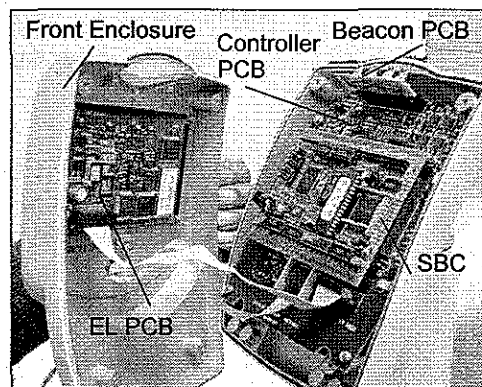

Figure 4-5b: Injector Controller
- b. Gently lift the Front Enclosure just a few inches and disconnect the two ribbon cables from the Controller PCB (see Figure 4-5b). Place the Front Enclosure on a clean surface.